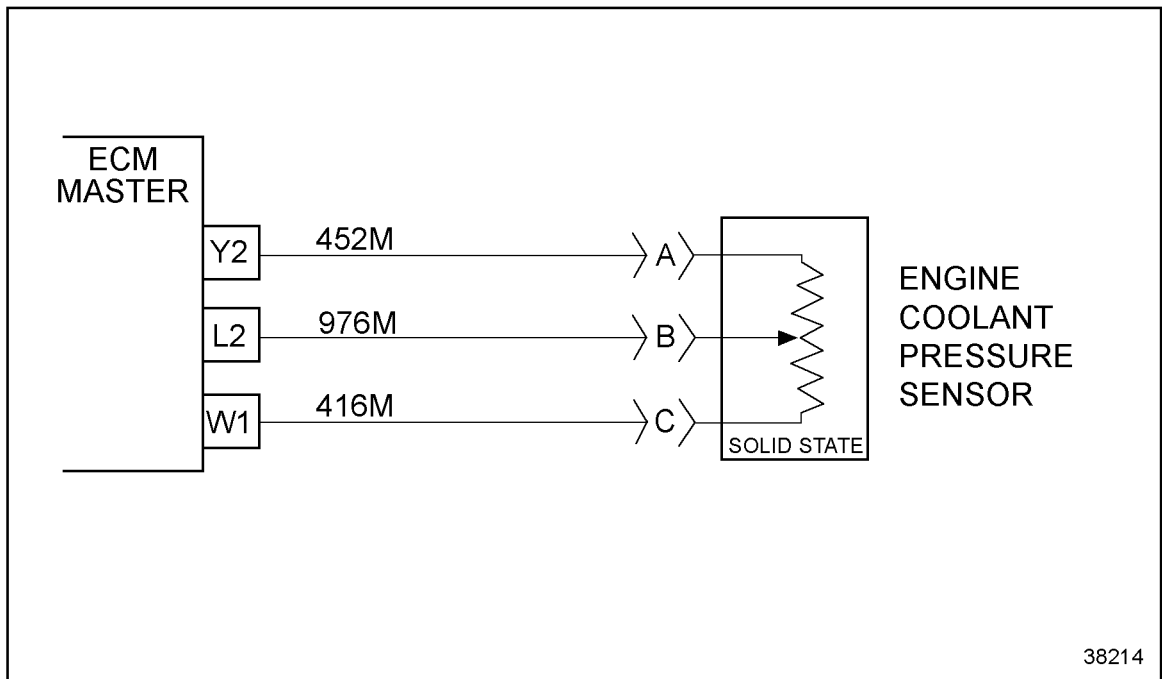

Figure 67-1 Master Circuit
3. Install a jumper wire between cavity B (976) and C (416). For Receiver circuit, see Figure 67-1. For Master circuit, see Figure 67-2.